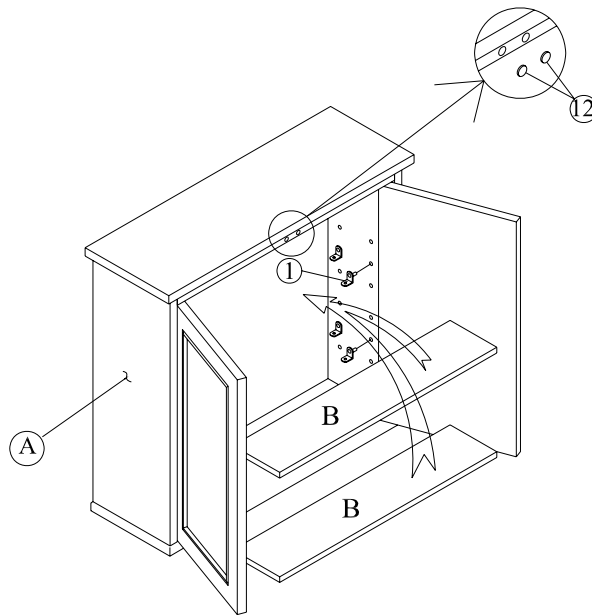

Figure 4
To install shelves: Insert the Shelf pins (1) into the pre-drilled holes on the interior side of the cabinet at desired level. Gently place shelf onto pins. Optional: Attach the rubber sheet (12) into the magnet in the cabinet. Figure 4